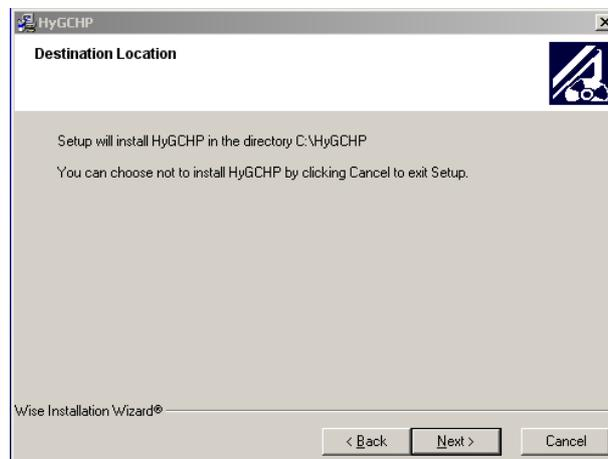

Figure 2. Destination Location Screen
- 3.) Click **Next** to reach the *Destination Location* screen (Figure 2). The hybrid simulation will be installed in the directory C:\HyGCHP.